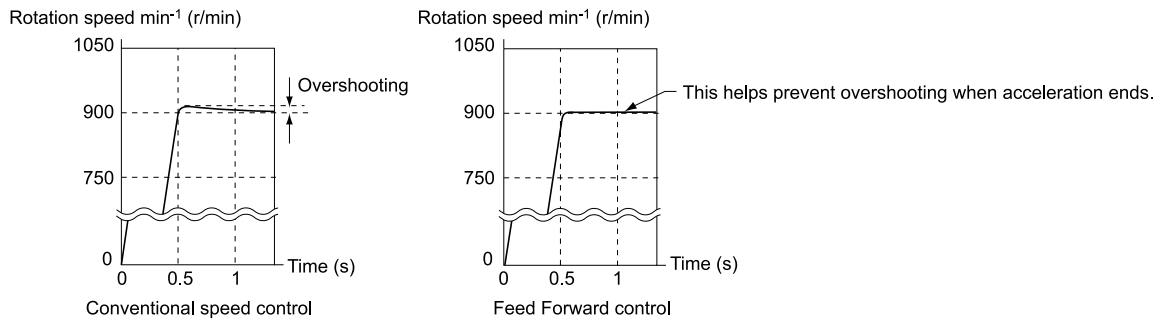
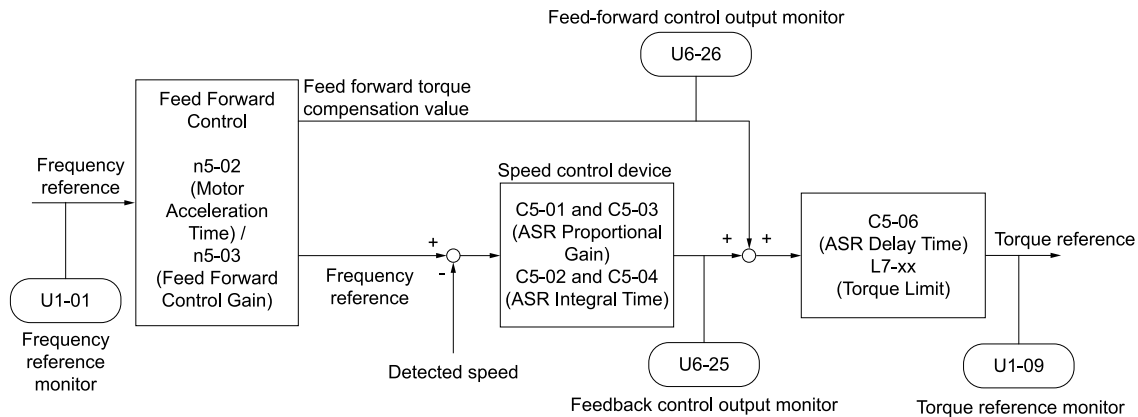

Figure 2.137 Suppress Overshooting with Feed Forward Control
Figure 2.138 Configure Feed Forward Control
Increase the values set in $C5-01$ and $C5-03$ [ASR Proportional Gain] to apply feed forward control to machines that have low rigidity and are possible to have hunting and vibration or to machines that have a large quantity of inertia. When you use this function in CLV control, it also helps prevent overshoot. Refer to Figure 2.137 for information. Refer to Figure 2.138 for more information about parameters related to feed forward control.
- If you cannot do Inertia Tuning, refer to Figure 2.138 and set the parameters related to feed forward control individually.